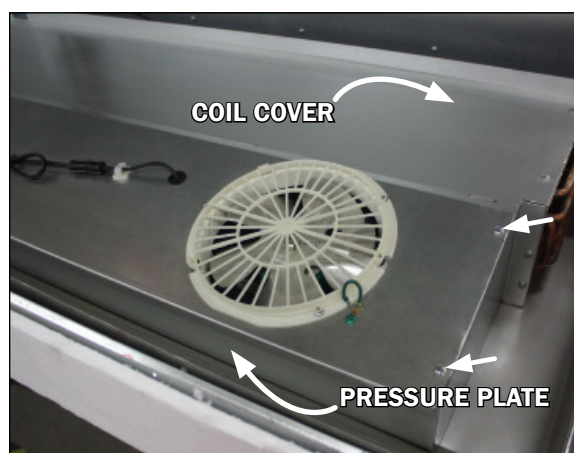

Fig. 13 Pressure plate, screw locations and coil cover (topside)
2. To access the underside of the fans first remove the screws on the top ends and front sill of the pressure plate cover (Fig. 13). Lift the pressure plate by use of the